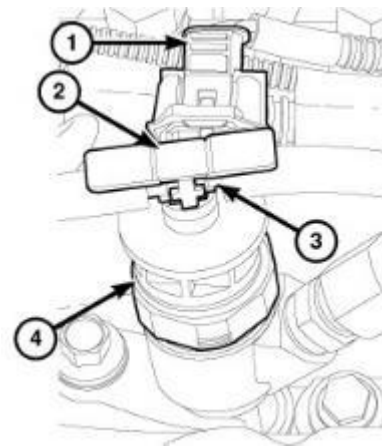

Figure 41 – Fuel Injector Return Line and Locking Tab
36. Disconnect the injector electrical connector (1) (Figure 41).
37. Lift up on the locking retaining tab on the fuel return lines (2) to unlock the lock. Remove the fuel return hose (3) by wiggling hose free at the fuel injector (4) (Figure 41).
57. Connect the right fuel rail pressure sensor wire harness connector (1) (Figure 41).